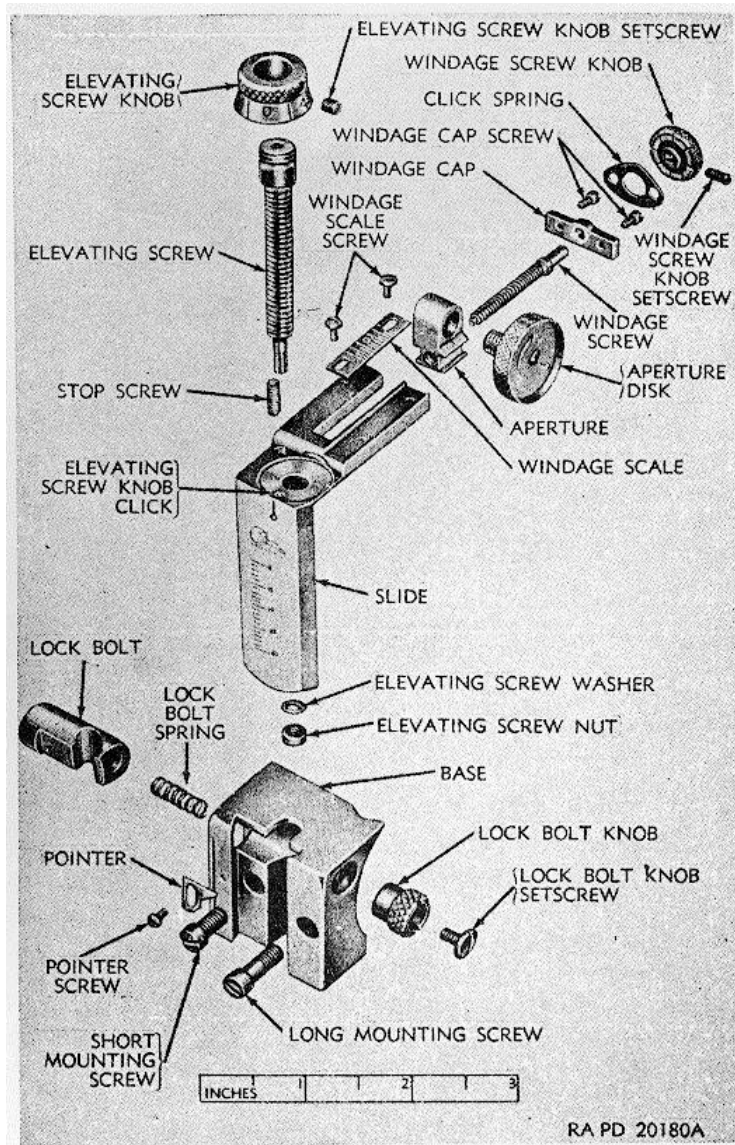

Figure 67. Receiver extension rear sight assembly-exploded view (Lyman rear sight No. 525)
- (1) Remove the two receiver base mounting screws and remove receiver extension rear sight.
- (2) Remove rear sight-base binding screw and filler screw (fig. 67) and separate rear sight base from rear sight receiver base.
- (3) Remove two windage cap screws (fig. 67) and withdraw windage cap, rear sight aperture, and attached parts from rear slide.
- (a) Remove rear sight disk from aperture (fig. 67).
- (b) Remove rear sight windage screw (fig. 67) from aperture and windage cap.
- (c) Remove windage knob setscrew (fig. 67) and separate knob and click windage spring from rear sight windage screw.
- (d) Remove windage scale screw and remove graduated windage scale (fig. 67).
- (4) Remove elevation plate screw (fig. 67) and remove graduated elevation plate.
- (5) Remove rear sight elevation screw (fig. 67) from rear sight slide and base and separate slide from base.
- (a) Remove elevation knob adjusting screw (fig. 67) from end of elevation screw.
- (1) Install the rear right slide (fig. 67) in the rear sight base (fig. 67) and install rear sight elevation screw through slide and base.
- (2) Install click elevation spring in recess on top of rear sight elevation screw and position in place.
- (3) Install elevation knob on end of rear sight elevation screw (fig. 67) align 0 graduation marks on knob and slide. Install two set screws in knob. Install elevation knob adjusting screw (fig. 67) in top of knob.
- (4) Install rear sight aperture in groove of rear right slide.
- (5) Install rear sight disk in rear sight aperture.
- (6) Position windage cap (fig. 67) on end of groove in rear sight slide and secure with two windage cap screws.
- (7) Install rear sight windage screw (fig. 67) through holes in windage cap and rear
- (8) Install click windage spring and windage knob (fig. 67) over end of rear sight windage screw and secure with windage knob set screw.
- (9) Install graduated windage scale (fig. 67) and secure with windage scale screw. Align reference marks on rear sight aperture and windage scale.
- (10) Install graduated elevation plate (fig. 67) on rear sight slide and secure with elevation plate screw.
- (11) Secure rear sight receiver base to receiver with concave surface in contact with receiver and secure with two receiver base mounting screws.
- (12) Install elevation take-up plug.
- (13) Secure rear sight base to rear sight receiver base and secure with rear sight base binding screw and fill screw.